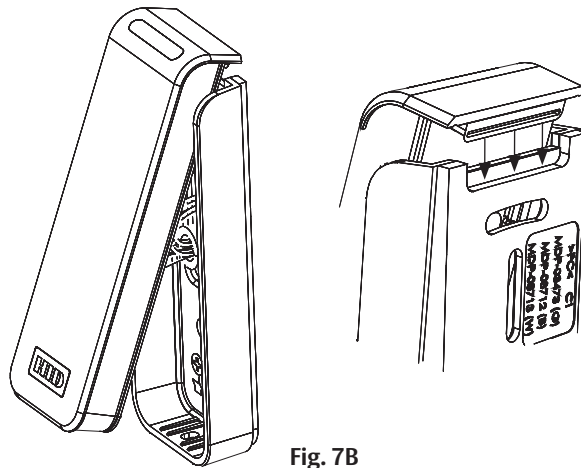

Fig. 7B
2. Hook the top of the reader on the top of the mounting plate (Fig. 7B).